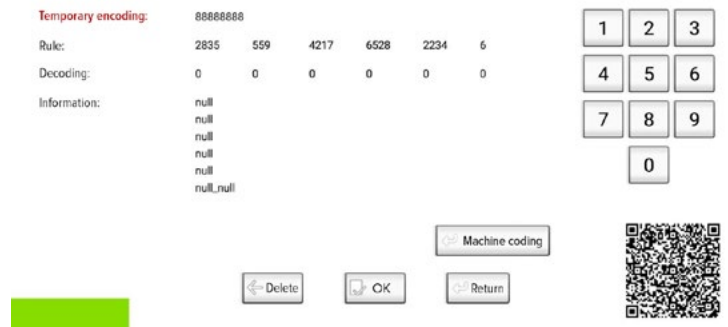

Fig. 3-14 Decoding interface
2. Send string of plaintext numbers in Fig. 3-14 Decoding interface to the company, keep the page and do not exit. The company will send a string of authorization code to you, click confirm after entering code.